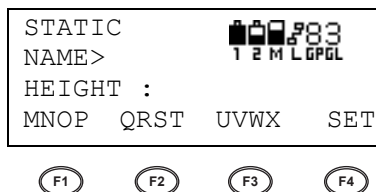

Figure 3-11. Press Function Key for Desired Letter Group
3. Press the **function key** for the letter group containing the letter, number, or symbol (Figure 3-11). For example, press **F2** for QRST.